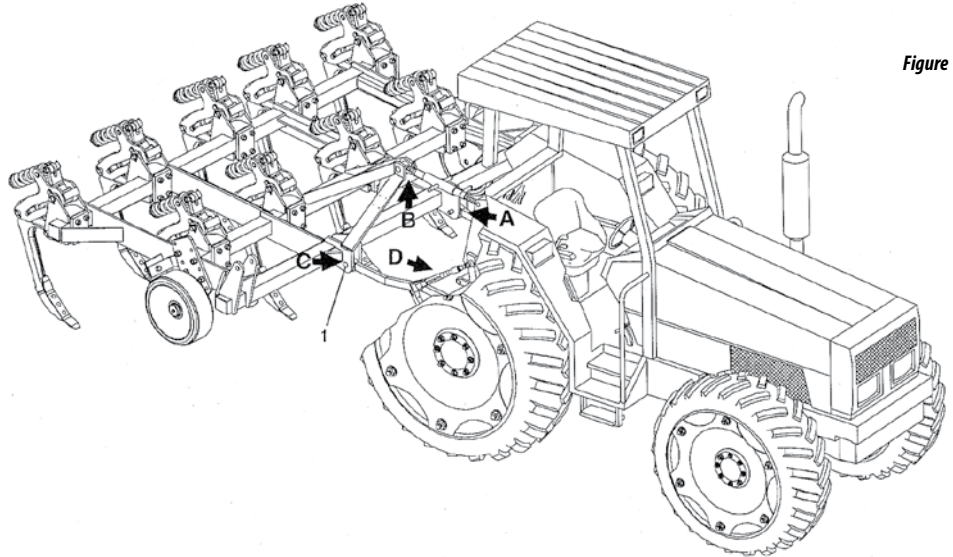

Figure 12
- 07 - Hitch the bottom left arm with the pin (1) figure 12 into the support of the subsoiler.
- 15 - Note that the rods should be parallel to the ground according to figure 12.